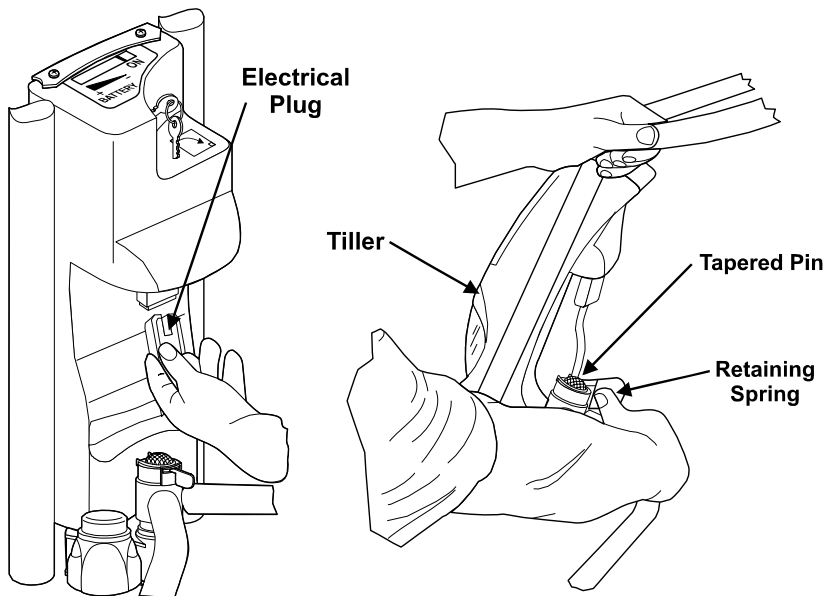

Figure 14.
4.1 Separation of Tiller from Frame (See Fig. 14).